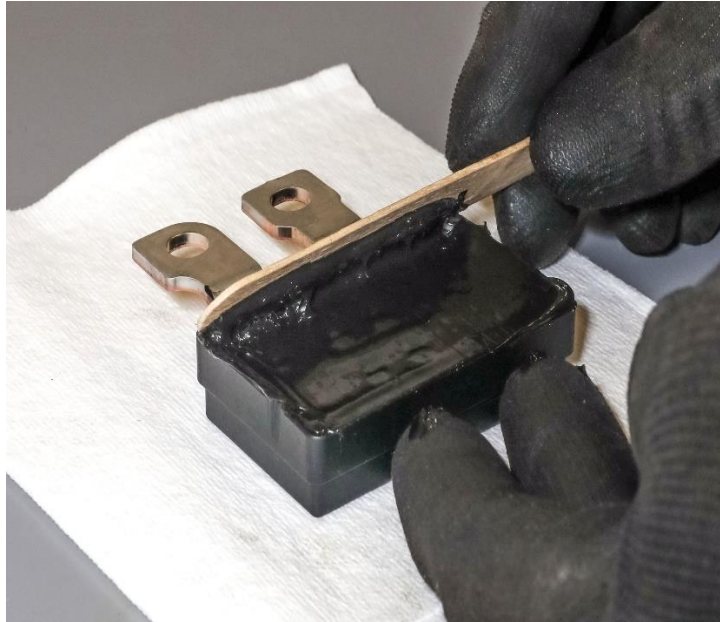

Figure 12 – Skimming Excessive RTV
10. Starting at the top of the Buss-Bars use a tongue depressor or equivalent and align it to the outer case of the relay and skim in the downward position to remove any excess RTV (Figure 12).
12. Install the intake air heater relay in the bracket (Figure 12).